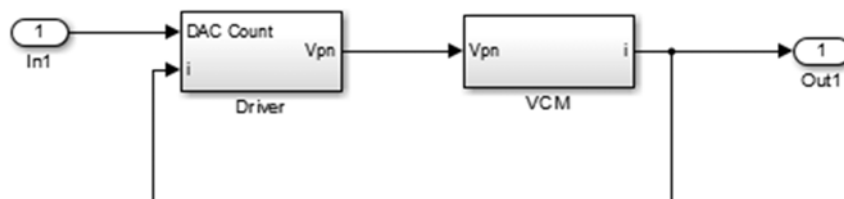

Figure 8: Extracting Model from Simulation
1. Connect a input port and output port as shown in **Figure 8**